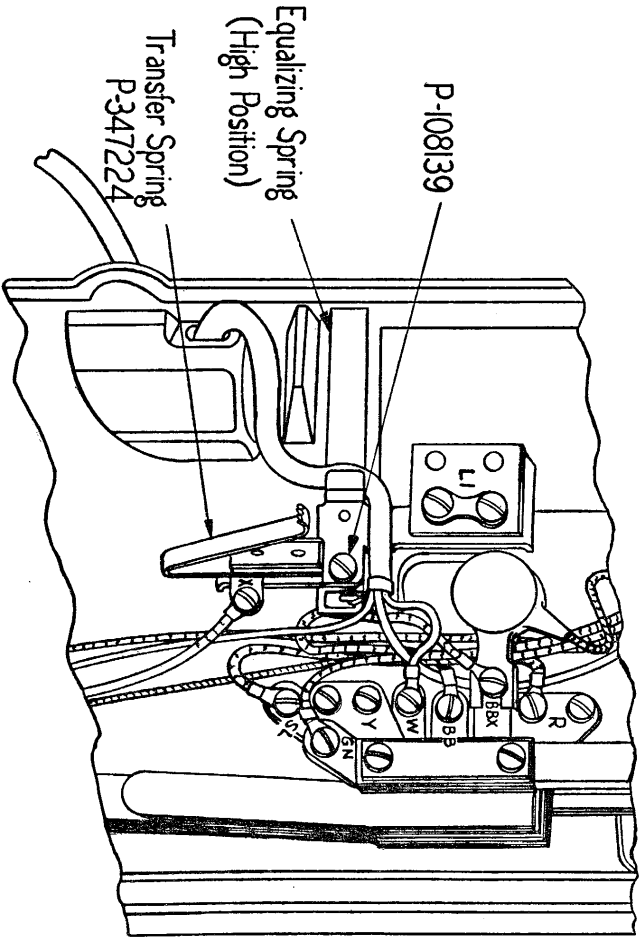

Fig. 1—Location of Transfer Spring
3.04 Transfer spring assembly P-347224 shall be added over the equalizing spring and fastened by screw P-108139 as shown on Fig. 1. The end of the contact spring shall stand out minimum 1-1/8" from the front face of its mounting bracket measured from a point where bracket mounts over equalizing spring.